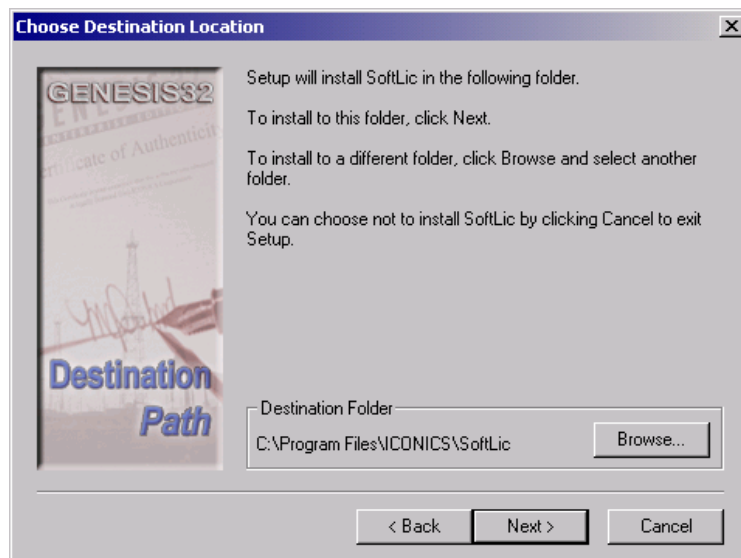

Figure 2.29
5. The default destination path for the ICONICS Licensing Software is **C:\Program Files\ICONICS\Softlic**. You may choose to change this location by clicking on the **Browse** button in the **Choose Destination Location** dialog in **Figure 2.29**. Click **Next**.